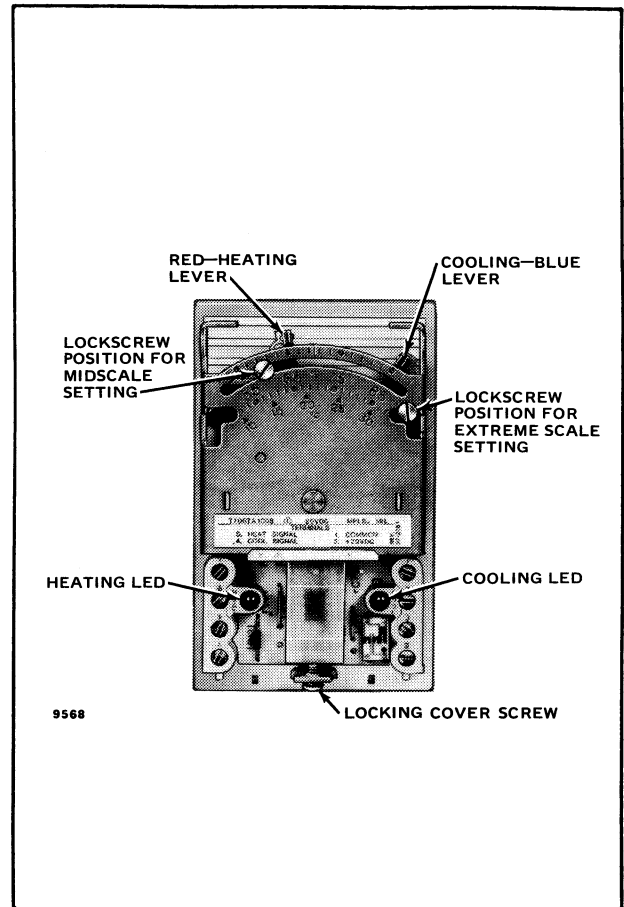

FIG. 4—T7067 THERMOSTAT WITH COVER REMOVED. TIGHTEN LOCKING SCREWS TO LOCK SET POINT ADJUSTMENT LEVERS.
The set point adjustment locks provided are engaged by moving set point adjustment levers to desired settings and tightening locking screws as shown in Fig. 4.
To position the set point lever at the extreme end of the adjustment scale, remove the locking screws. (The locking screws interfere with the thermostat scaleplate when the set point levers are moved to the extreme end of the scale). Move the set point lever to the extreme position. The set point lever can be locked in place at the extreme end of the scale if the locking screw is re-inserted into the lever lock through the hole below the end of the scale (see Fig. 4).
4. Note the red LED's near the bottom of the thermostat (Fig. 4).